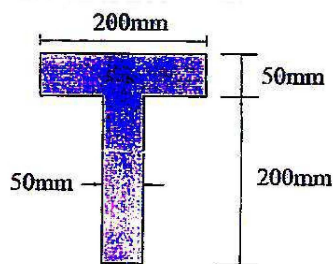

Fig. 9
6. (a) Draw shear stress distribution diagram for cross-section of beam shown in Fig. 9. The shear force at section is 200 kN and M.I. is  $1.134 \times 10^8 \text{ mm}^4$ . [8]